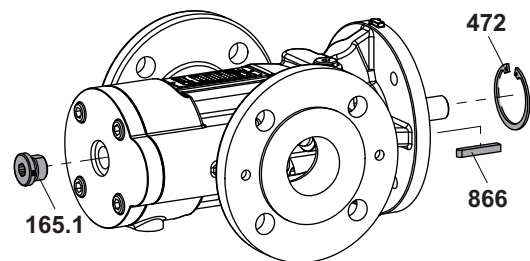

Fig. 7
1. Remove the circlip 472, screw plug 165.1 and feather key 866, see Fig. 7.